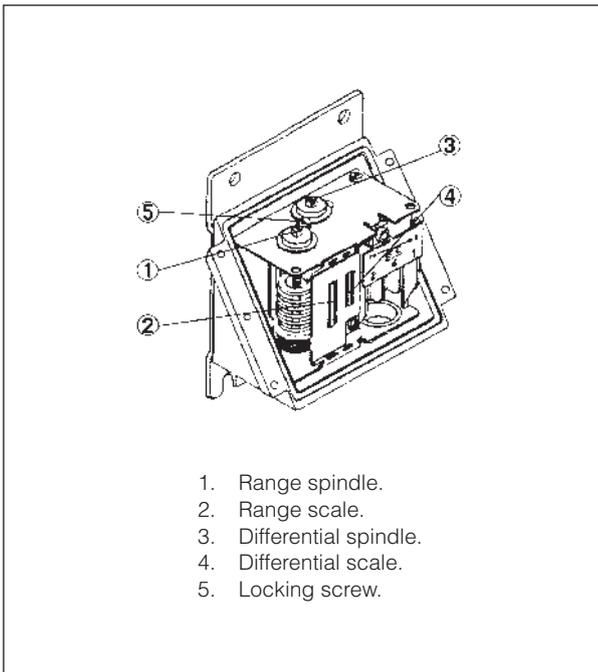

Fig. 1.
1) When the thermostate cover is removed and locking screw pos. 5, fig. 1 is loosened, the range can be set with the spindle pos. 1 while at the same time the scale pos. 2 is read.